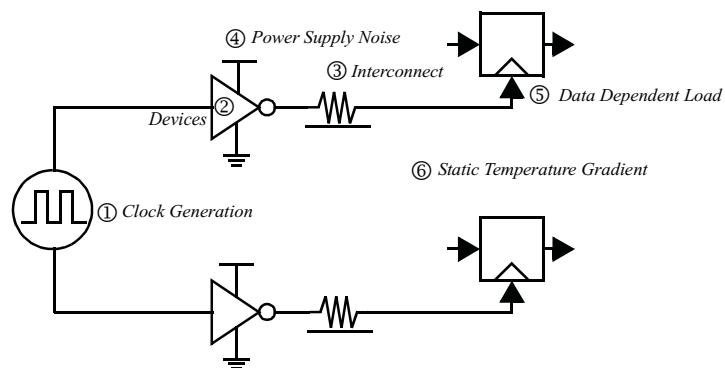

Figure 0.2 Sources of Skew and Jitter in Clock Distribution.
- a. A balanced clock distribution scheme is shown in Figure 0.2. For each source of variation, identify if it contributes to skew or jitter. Circle your answer in Table 0.1